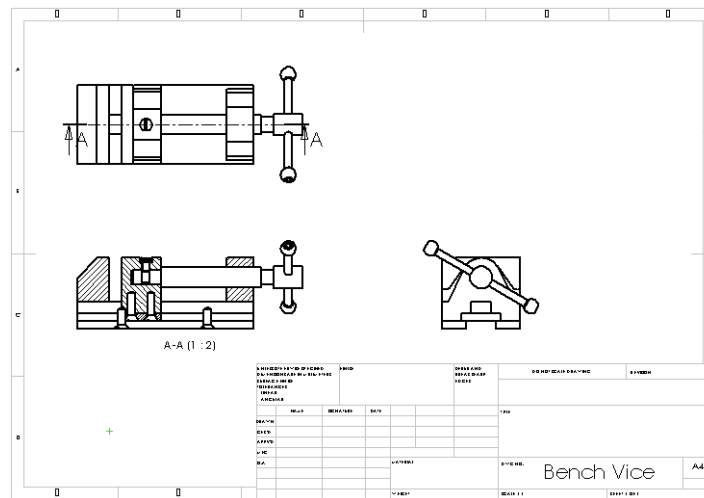

Figure 12-60 Right view generated using the *Projected View* tool
- e. Generate the right projection view using the **Projected View** tool, refer to Figure 12-60.
2. Move the cursor to the right of the sectioned front view and place the view on the right of the sectioned front view as shown in Figure 12-60.